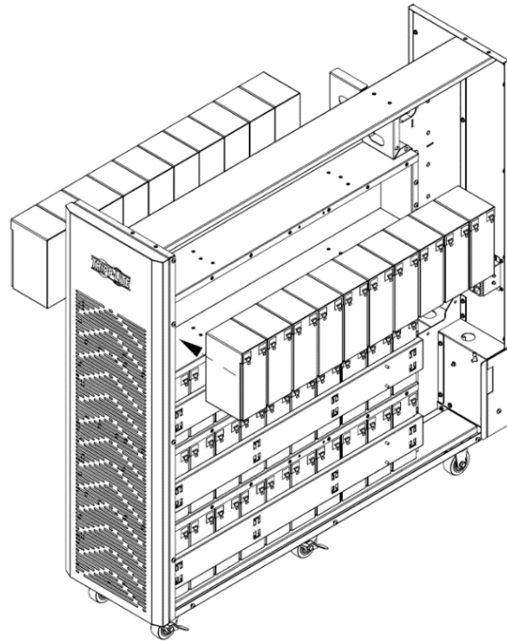

Figure 5-12B
15. Install another 10 battery packs in the layer (L4-B, group 4 negative string). Be sure to keep terminal sides of all batteries up (Figure 5-12B).